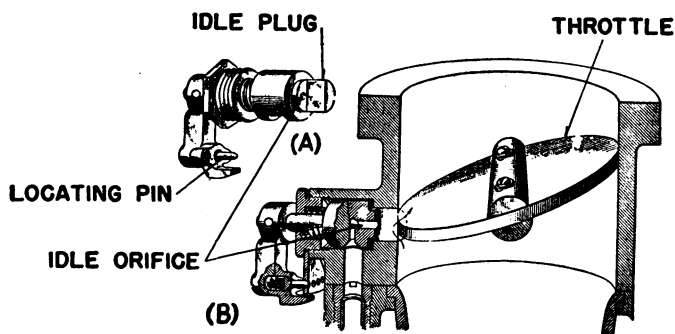

Figure 42.—Idle device used in Stromberg float-type carburetor.
The idle orifice employed in Stromberg carburetors is contained in a plug, figure 42, view (A). The actual construction varies somewhat in different carburetor models. The
quarter-segment above the valve, as indicated by the curved arrow, figure 42, view (B). In passing through the bypass, air draws fuel from the idle orifice.
The throttle valve primarily used in carburetors is the butterfly type, illustrated in figure 42. This type of valve not only controls the engine throughout the power range, but serves a secondary purpose of regulating the idling mixture, as already described. For this reason it must be very closely adjusted. When two or more barrels of a carburetor are controlled they are usually synchronized—made to operate exactly in unison—by means of meshing gears carried on the ends of the throttle-valve shafts. The valves must be adjusted to work together, as the regulation of the idling mixture especially requires accurate closing of the throttles. The construction for accomplishing this is described later.